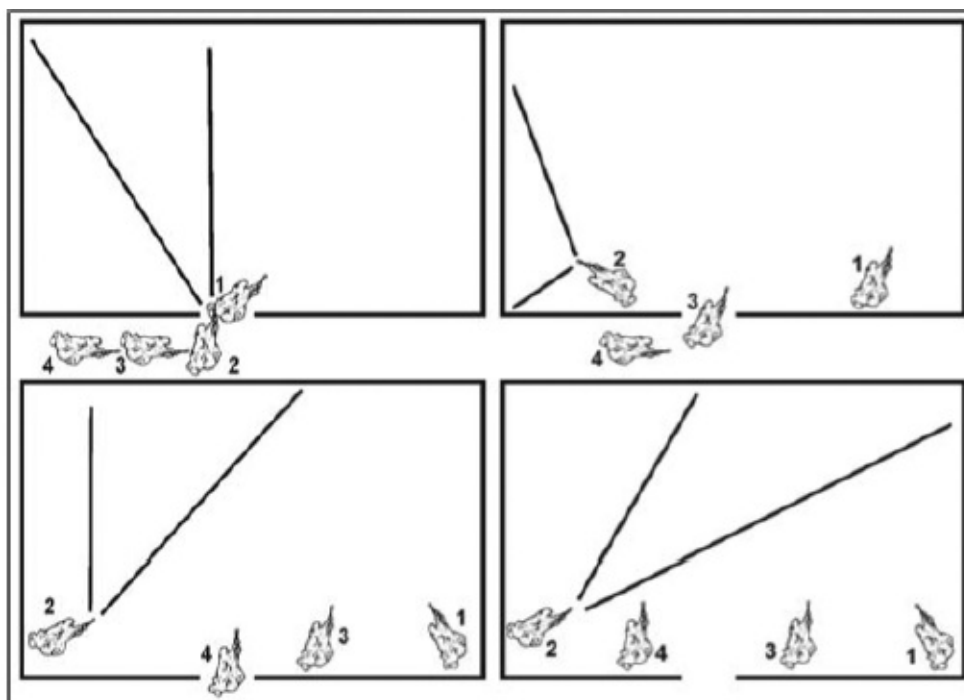
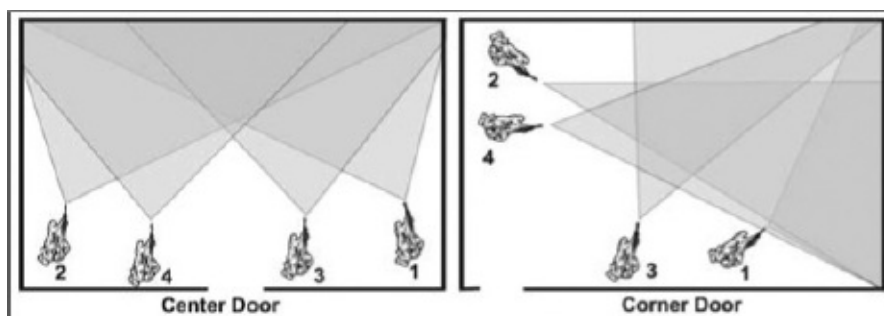

Figure 4-7. Second man (team leader) enters a room
Figure 4-10. Points of domination and sectors of fire, center door versus corner door
15. The team members move toward their points of domination, engaging all threat or hostile targets in sequence in their sector. Team members must exercise fire control and discriminate between hostile and noncombatant room occupants. (The most practical way to do this is to identify whether or not the target has a weapon in his or her hands.) Shooting is done without stopping, using reflexive shooting techniques. Because the Soldiers are moving and shooting at the same time, they must move using the careful hurry. Figure 4-10, shows all four team members at their points of domination for a room with a center door and their overlapping sectors of fire.
19. The second man (normally the team leader), entering almost simultaneously with the first, moves in the opposite direction, following the wall (Figure 4-7). The second man must clear the entry point, clear the immediate threat area, clear his corner, and move to a dominating position on his side of the room. The second man must also immediately determine
if he is entering a center door or corner door and act accordingly (Figure 4-7 and Figure 4-10).
22. Points of domination should not be in front of doors or windows so team members are not silhouetted to the outside of the room (Figure 4-10). No movement should mask the fire of any of the other team members.